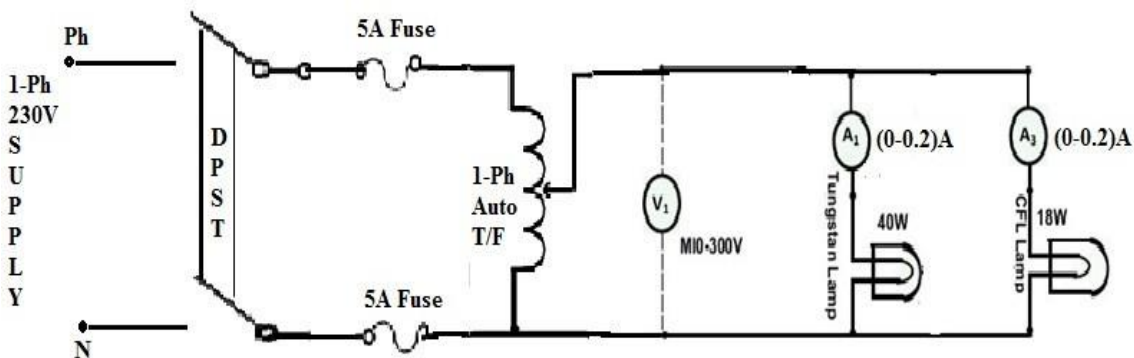

Fig.1 V-I characteristics of the Tungsten and CFL Lamp
- Set up the circuit as shown in Fig 1 with the lamps and instruments as indicated. Keep the switch S open.